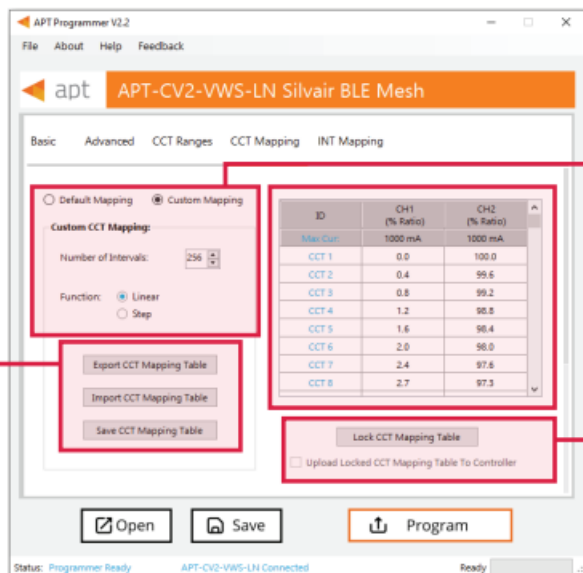

Figure 9: Programmer Interface window - CCT Mapping tab
- Tip: Scroll to the bottom of the window to see graph (shown in Figure 9) of the current INT mapping configuration.